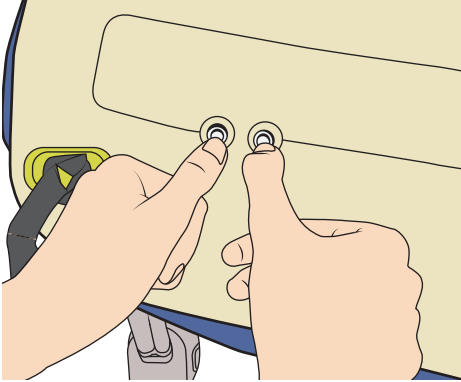

Figure 61
3. Push in the centre of the 2 valves to deflate the Auralis seat cushion. See Figure 61